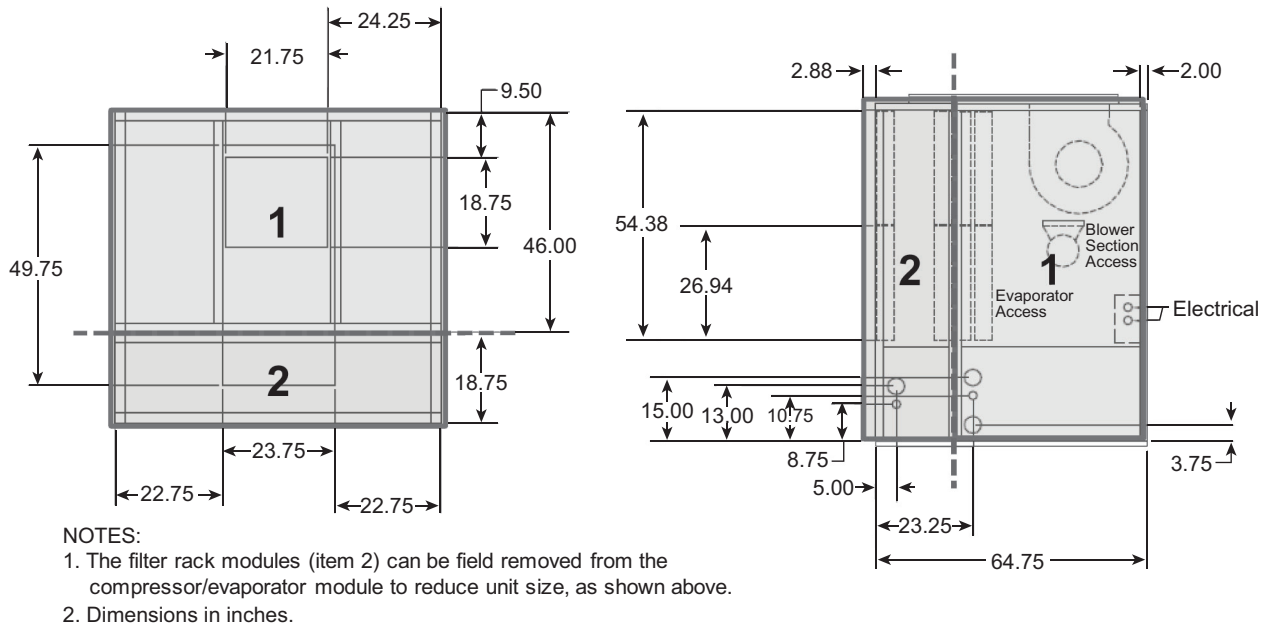

Fig. 4 — Low Boy Field Split - 30 Ton
50BV low boy units are short and wide, to allow installation in height restricted areas. Low boy units ship as either one (034) or two (044-064) separate modules that are mated together during the final installation. See Fig. 10, 11, 14, and 15 for low boy base unit dimensions. The filter rack/economizer section of the low boy unit can be field removed for easier installation. See Fig. 4 and 5 for low boy field splits.